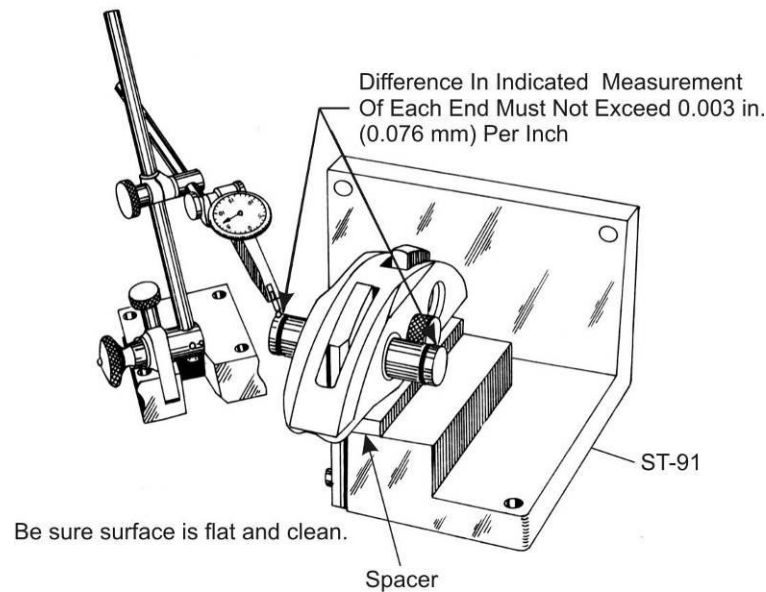

Figure 7
11. Turn the counterweight squareness gage ST-91 over on its adjacent side and again measure both ends of the gaging arbors (Figure 7).